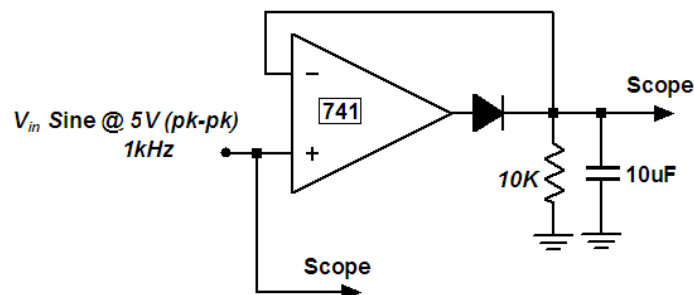

Fig 2:- Active Peak Detector
When the diode as shown in fig 2 is reverse biased then the voltage across the capacitor is retained. Capacitor discharges through the resistor when the diode is reverse biased. Operational amplifier acts as a voltage follower when the diode is forward biased and charges the capacitor to the peak value.
1. Connect the circuit as shown in fig 2.